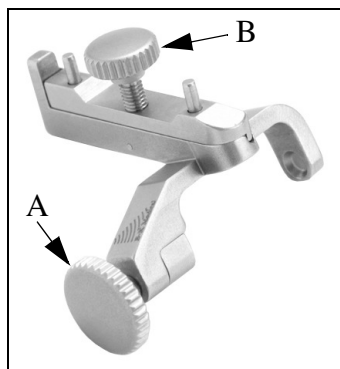
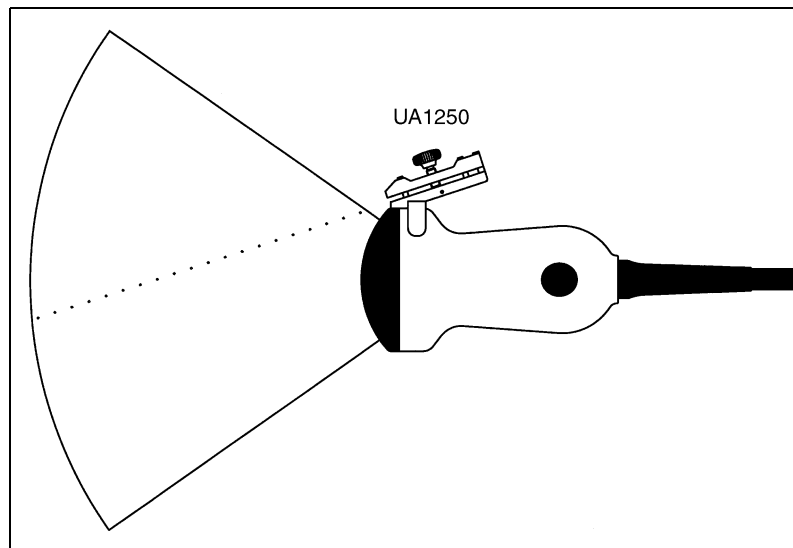

Figure 3. Puncture attachment UA1250
Figure 5. Puncture line for UA1250 with 8802
The puncture attachment (see Fig 3) comprises an attachment bracket, an attachment lock screw (item A in Fig. 5.), a needle guide, a needle-guide lock screw (item B in Fig. 5.) and a variable diameter holder for fine needles (0.6mm or 24 gauge) and large bore needles (2.4mm or 13 gauge). The guide channel is angled at 18° to the transducer's image axis.
Note: When mounted the attachment lock screw (item A in Fig 3) should be on the side of the transducer handle opposite to the transducer's control button.
- 2 Fix the attachment bracket in position by tightening the attachment lock screw (item A in Fig 3). Tighten the screw up to its “locking point”, after which it will not be possible to tighten the screw anymore.
- 4 Using the needle guide locking screw (item B in Fig 3), adjust the needle guide according to the size of needle to be used.
The distance from the guide channel entrance of the puncture attachment to the first dot on the scan image puncture line is **52mm**. The distance between the dots is 10mm, see Fig 5 for details.